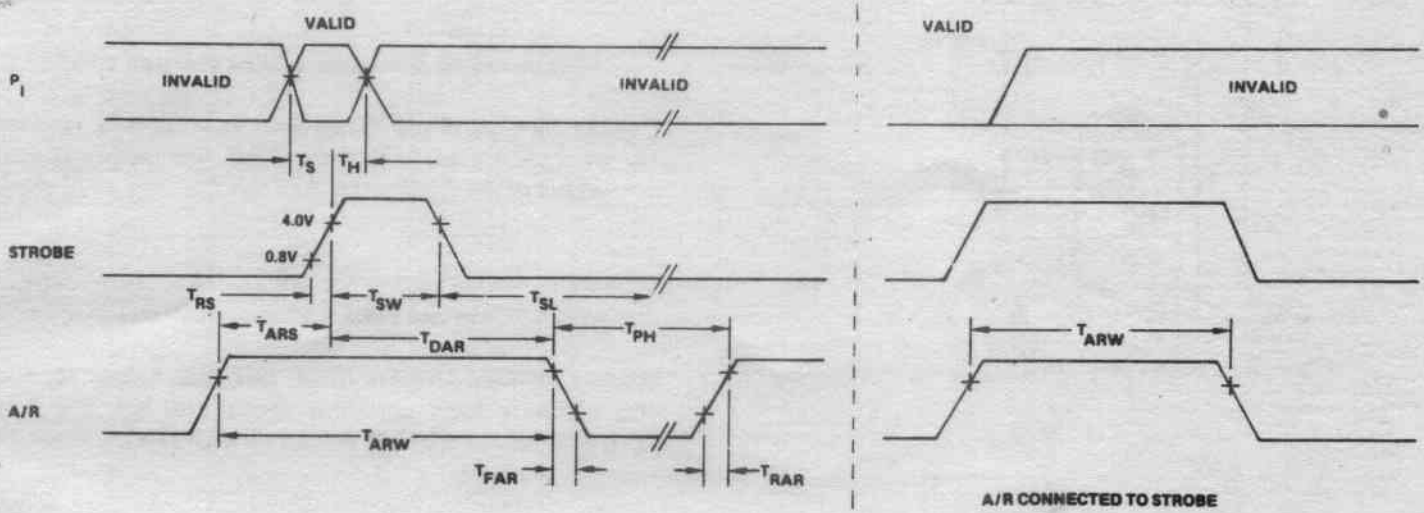

Figure 4. Timing Diagram
**SIGNAL DESCRIPTION** (See Figures 4 and 5)